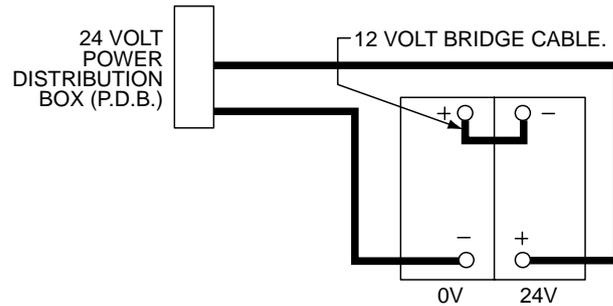

Figure 7 Batteries - Installation
- a. Disconnect the batteries, negative terminals first, then disconnect the positive terminals (Figure 7).
- h. Connect the battery cables as shown in Figure 7, and stow the battery carrier. Secure the carrier with the security clip and pin.